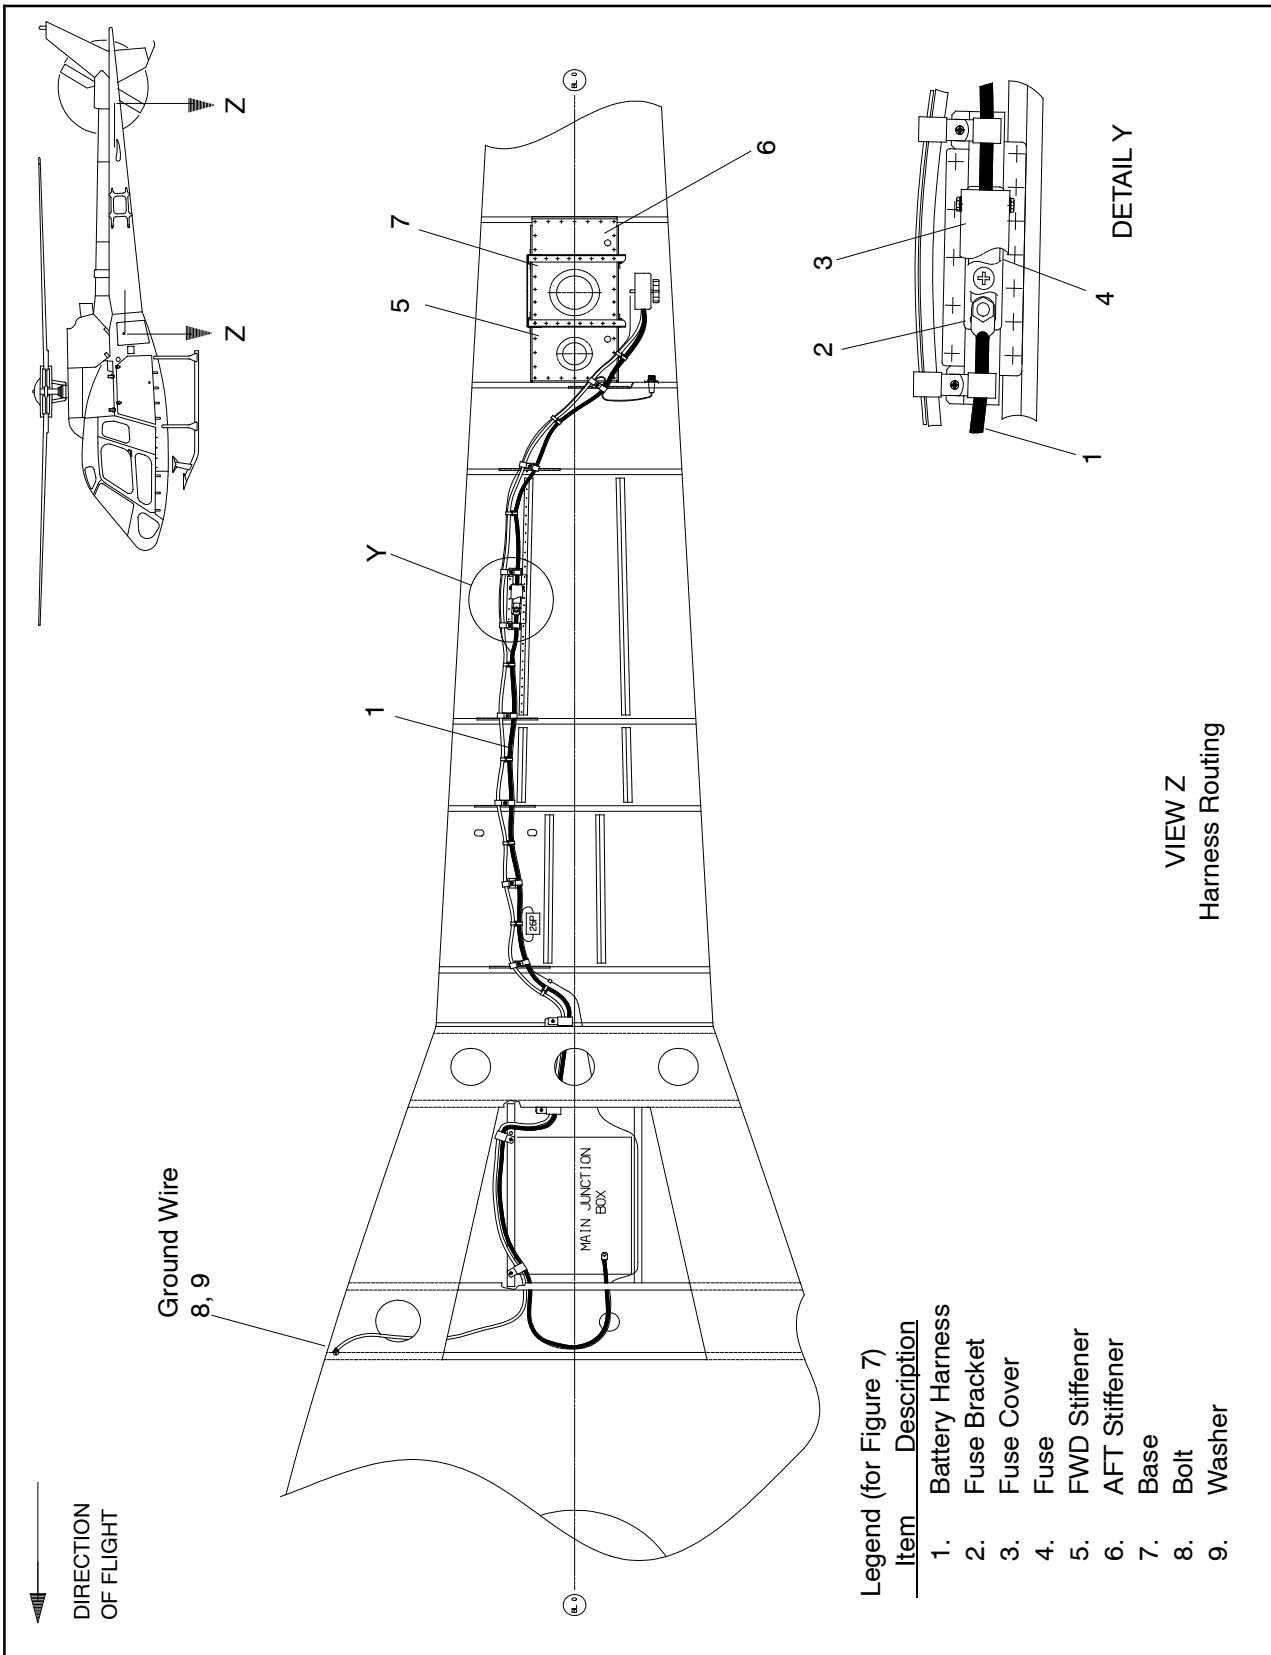
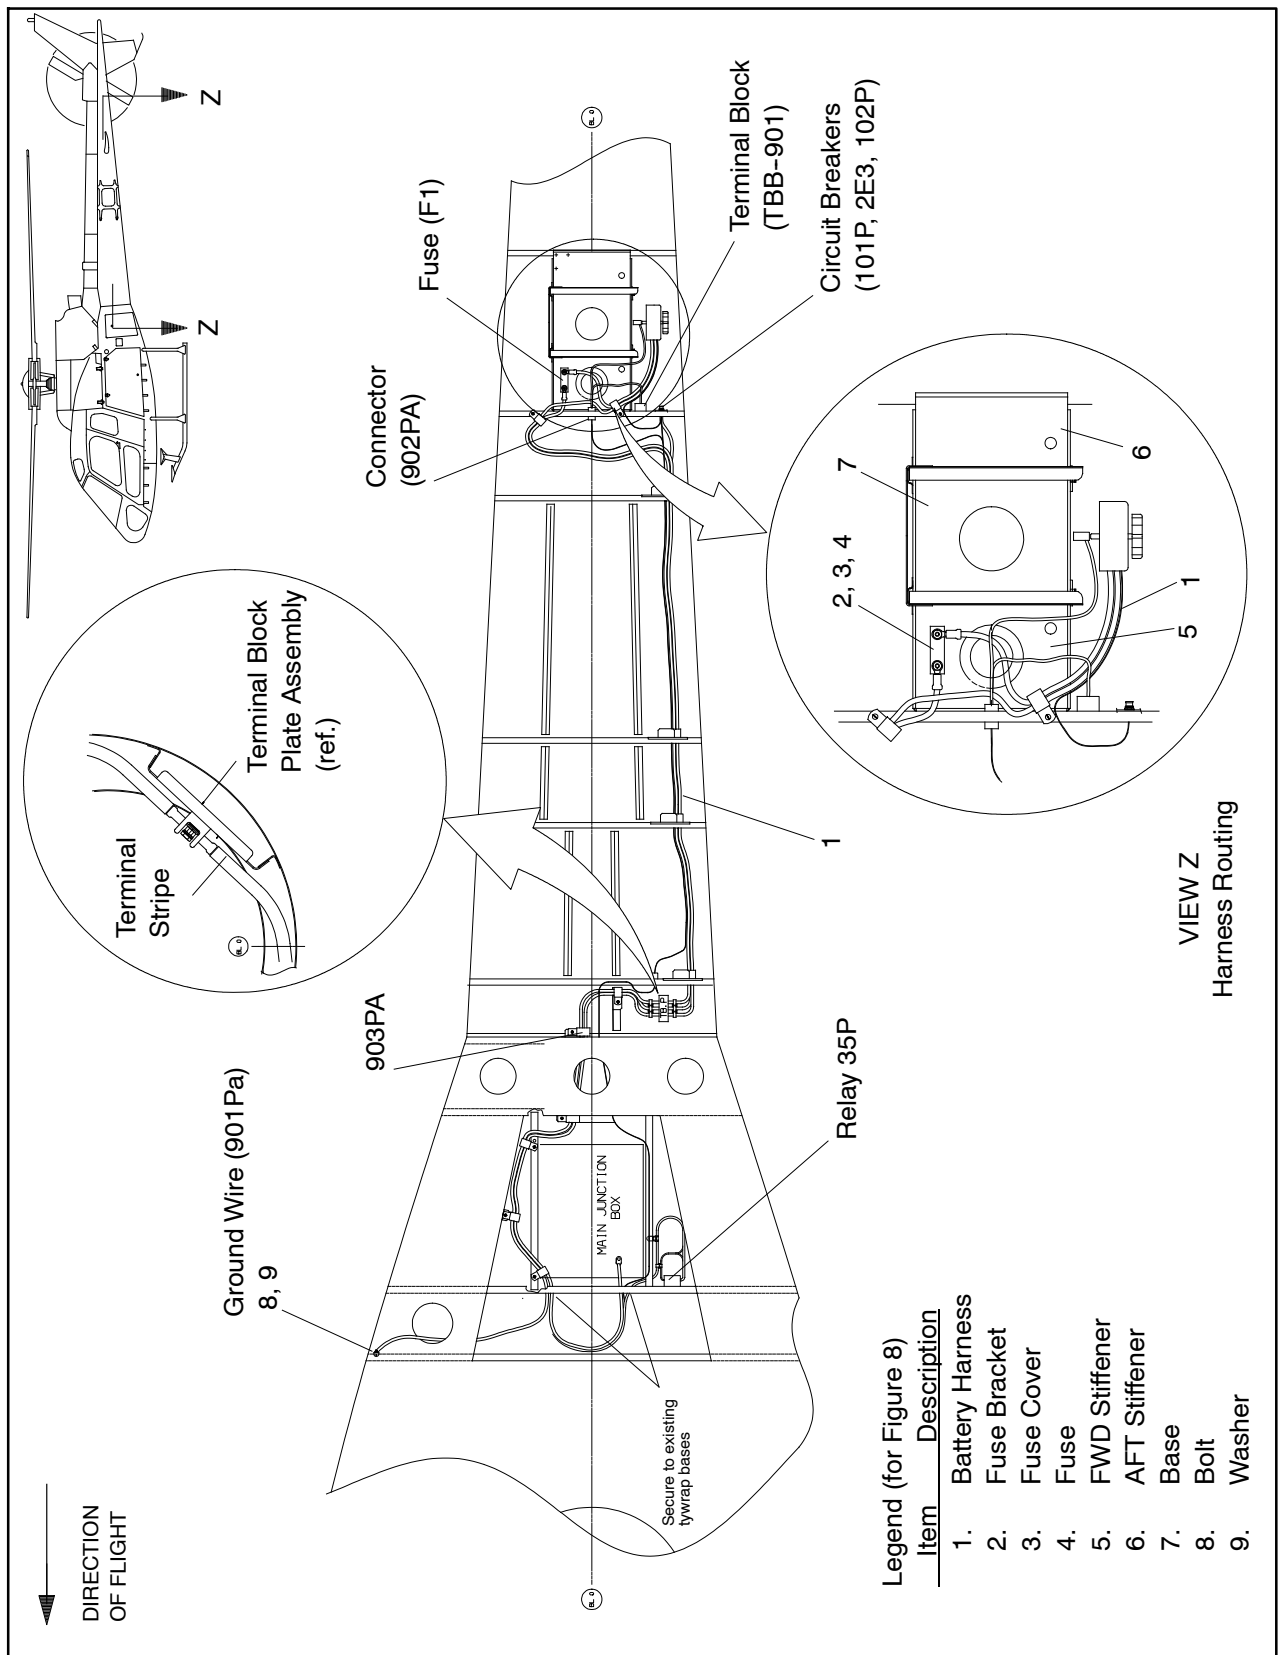
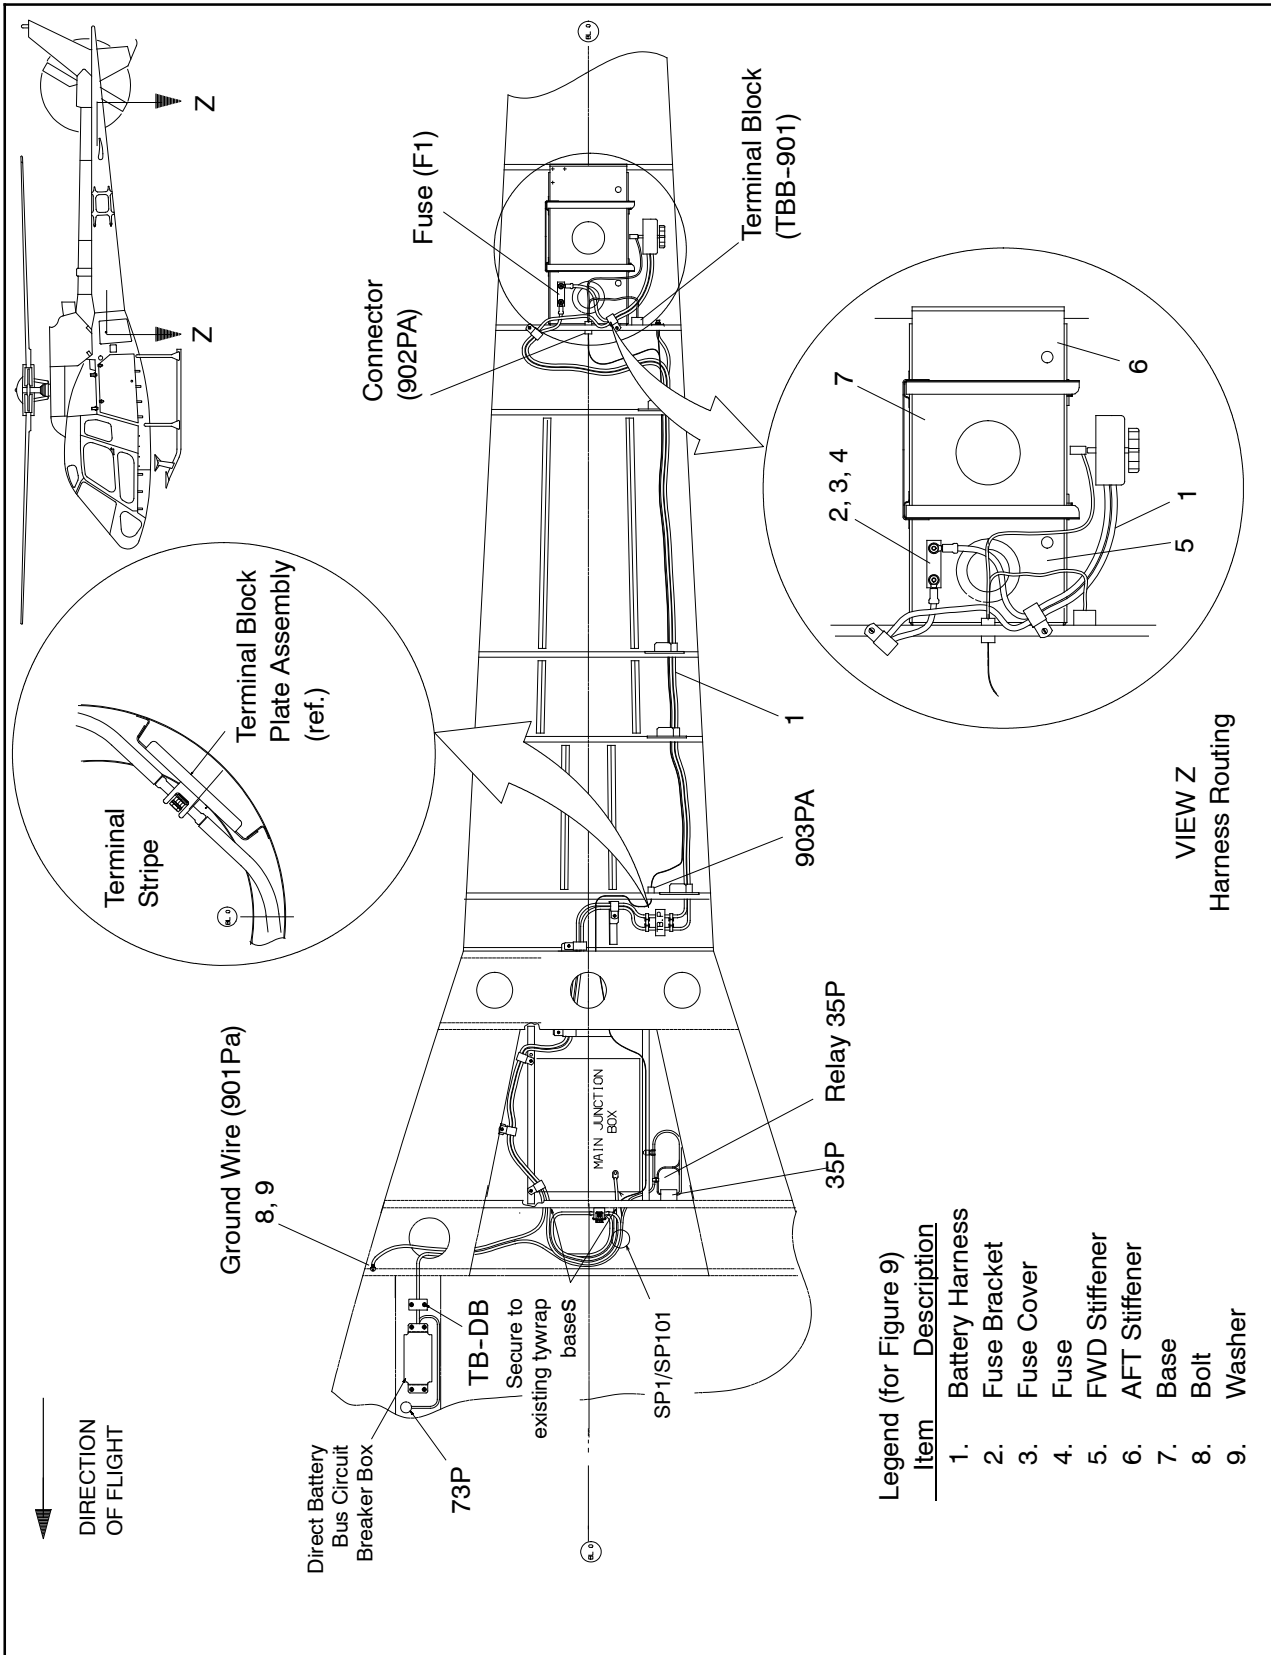
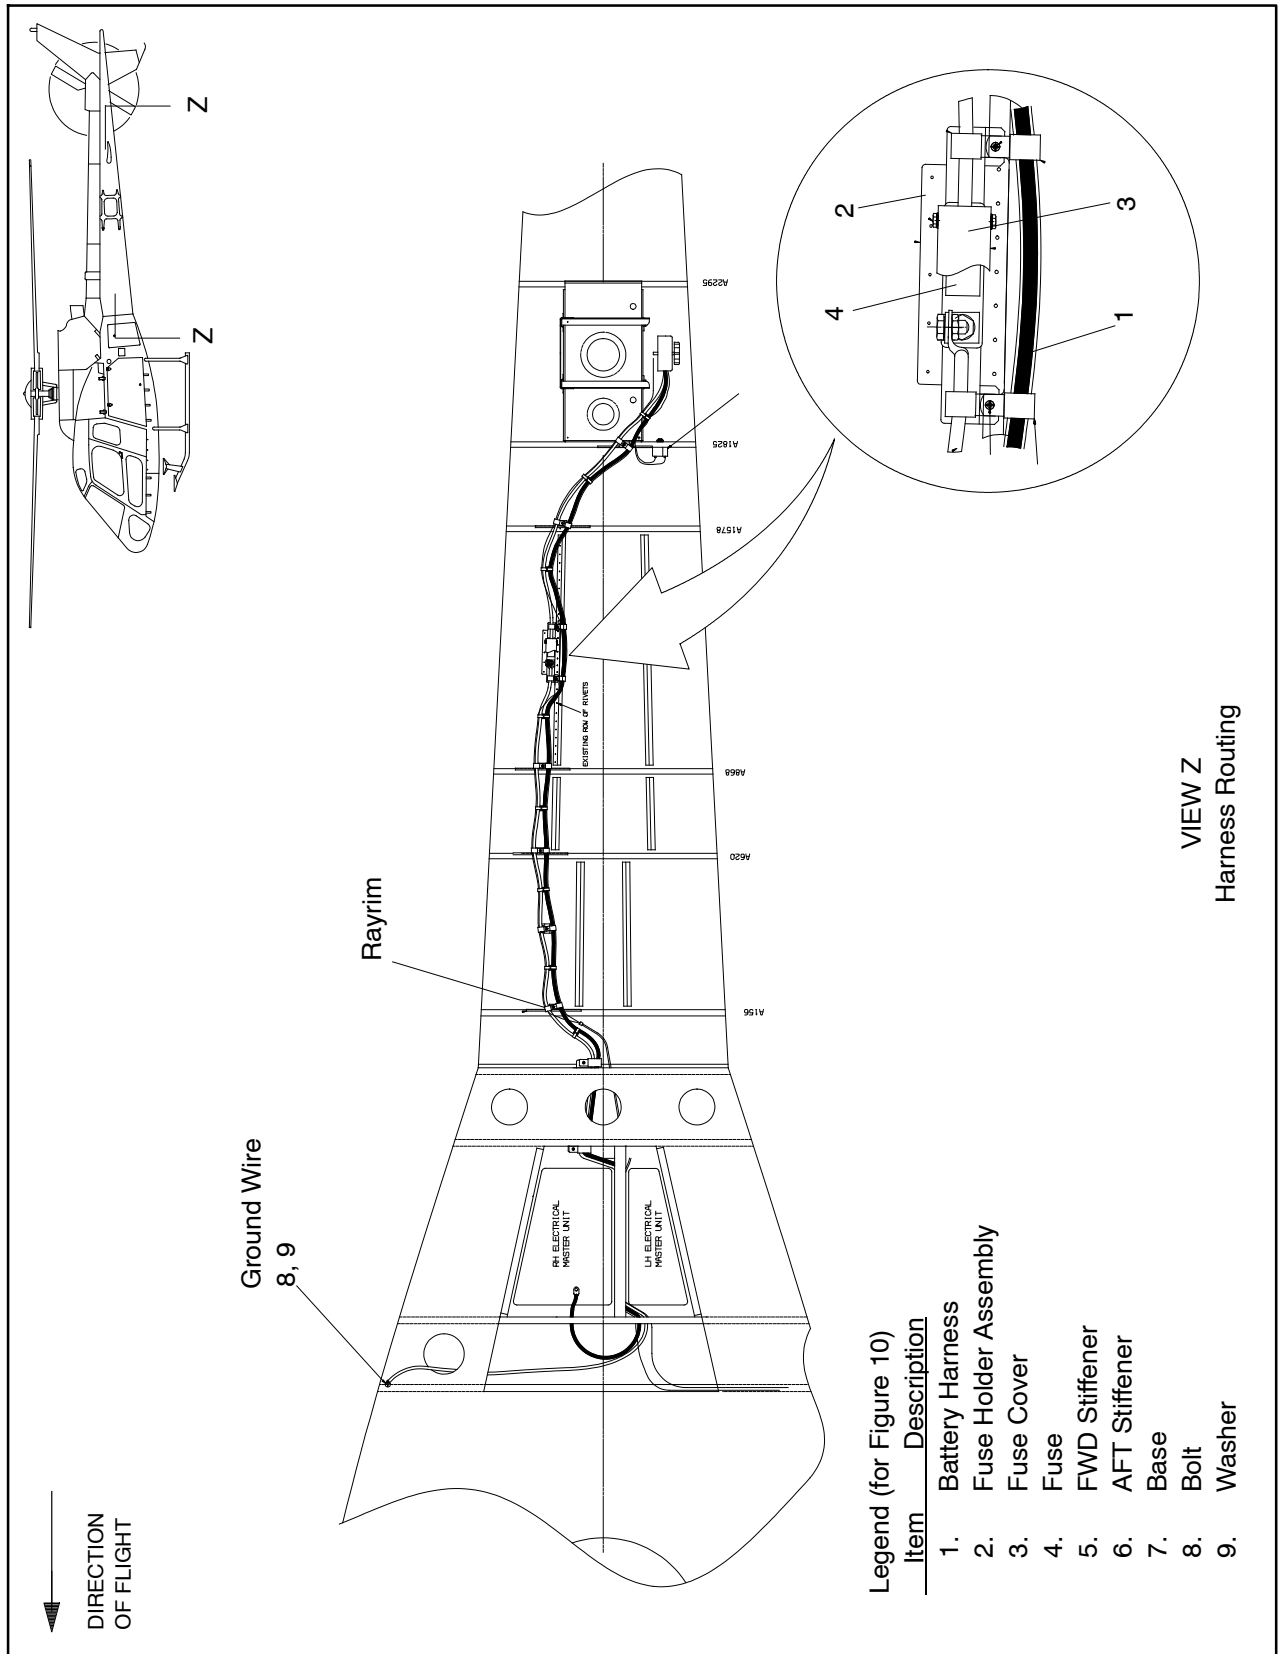

Figure 7 AS 350 Harness Routing - Tail Boom PRE AMS 07-3273 and 3274
Figure 8 AS 350 Harness Routing - Tail Boom POST AMS 07-3273 and 3274
Figure 9 AS 350 Harness Routing - Tail Boom MOD AMS 07-4280 (AS 350 B3 only)
Figure 10 AS 355 Harness Routing - Tail Boom
- Base (Refer to Figures 7, 8, 9 and 10)
- FWD and AFT Stiffener (Refer to Figures 7, 8, 9 and 10)
For AS 350 B2/B3 AMS 07 4280, the fuse holder assembly is removed from the tailboom. Refer to Figure 9.
For AS 350 POST AMS 07-3273 and 3274, the fuse holder assembly is located on the battery tray. Refer to Figure 8.
For AS 355 the fuse holder assembly is located in the tailboom. Refer to Figure 10.
For AS 350 Harness routing in the tail boom for PRE AMS 07-3273 and 3274 refer to Figure 7. For AS 350 Harness routing in the tail boom for POST AMS 07-3273 and 3274 refer to Figure 8. For AS 350 Harness routing in the tailboom for MOD AMS 07-4280 (AS 350 B3) refer to Figure 9. For AS 355 Harness routing refer to Figure 10.